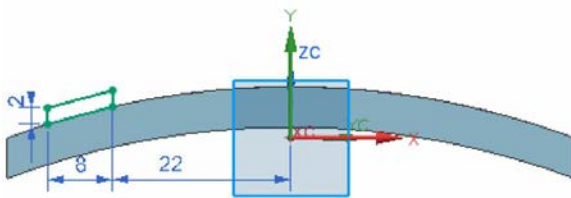

Figure 11-73 Sketch drawn for extrusion
- d. Create the third feature by extruding the sketch, refer to Figures 11-73 and 11-74.
1. Create the sketch for the third feature by selecting the YC-ZC plane as the sketching plane, as shown in Figure 11-73.